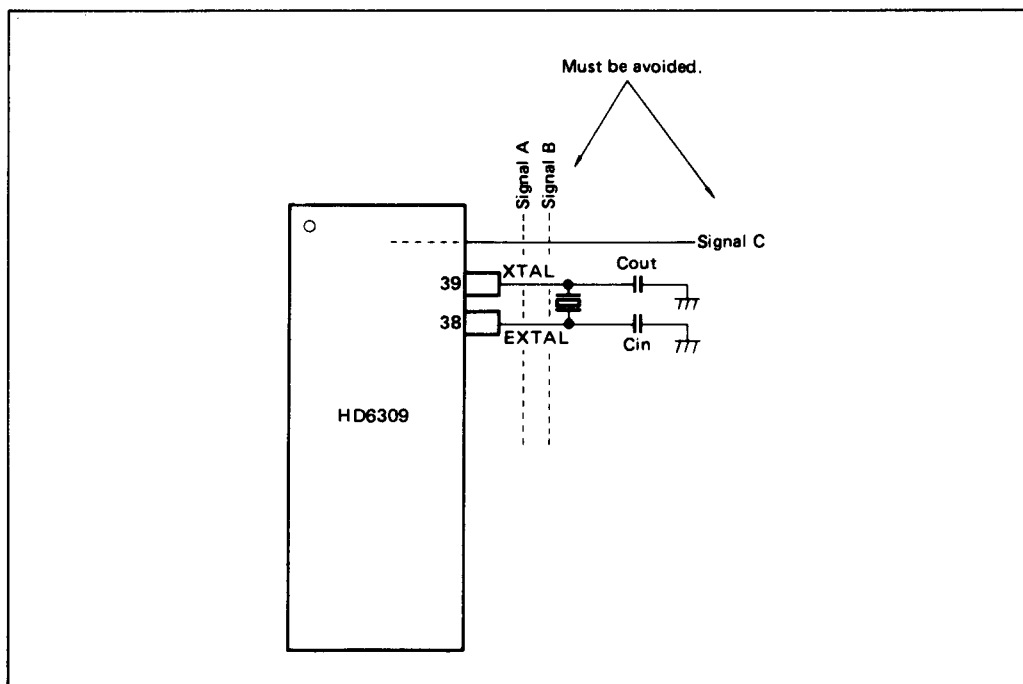

Figure 9. Example of Normal Oscillation may be Disturbed
**Designs to be Avoided:** A signal line or a power source line must not cross or go near the oscillation circuit line as shown in figure 9 to prevent induction from these lines. The resistance between XTAL, EXTAL and other pins should be over 10 MΩ.